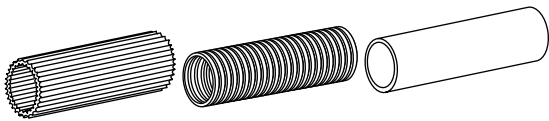

Figure 6 Ribbed, corrugated, and smooth-walled innerduct
**4.2** Innerduct is available in ribbed, corrugated, and smooth-walled constructions of polyethylene or PVC material (Figure 6). Corning Cable Systems fiber optic cable is compatible with all major brands of innerduct. Consult your company's practices for innerduct specifications.